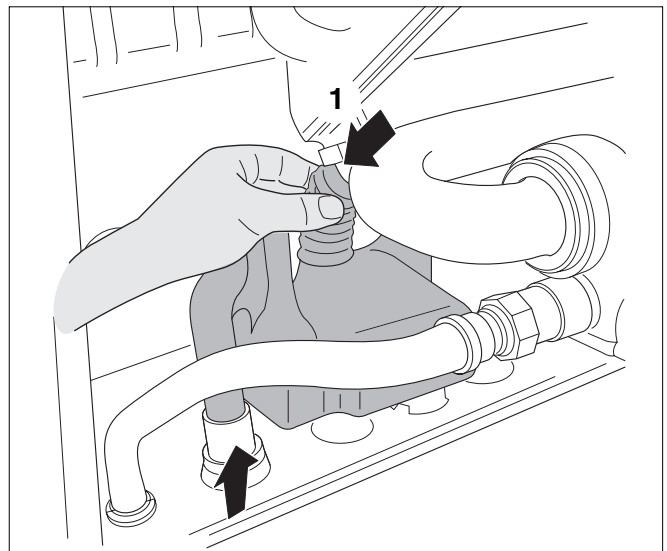

Fig. 128 Dismantling the condensate trap connection to the condensate collector
- Dismantle the condensate trap connection to the condensate collector (see fig. 128, pos. 1).